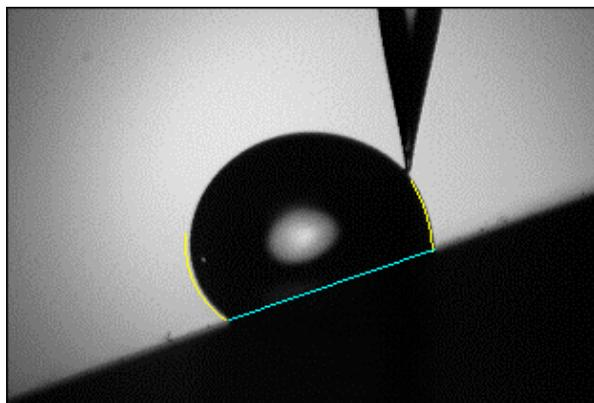

Figure 15. Tilted plate experiment.
**Advancing and Receding Angles on Tilted Plate.** The classical way to make advancing and receding angle measurements is to tilt the sample until the drop just begins to roll downhill. FTA offers tilt tables for this purpose. An interesting alternative is to fix the tilt but increase the drop volume until movement begins. Larger drops will begin movement at smaller tilts than will small drops. The glass capillary tip offers a convenient way to have low contact area (minimizing adhesion) yet still inject fluid and thereby vary volume. Figure 15 shows a drop on PTFE just before detachment and movement.